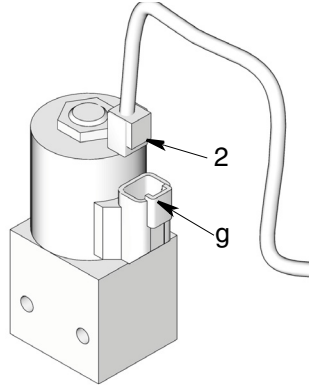

FIG. 4
5. Connect the end of the cable (2) to the lube system controller.
6. Connect cable (2) to the solenoid valve (g). (FIG. 4)